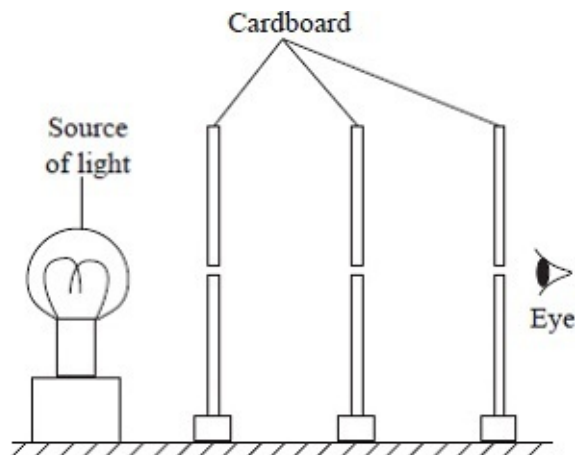

Fig. 8.4: Light travels in a straight line
- Place a lamp behind the first cardboard and view through the hole in the last cardboard sheet at the other side, as shown in figure 8.4. Observe what happens.